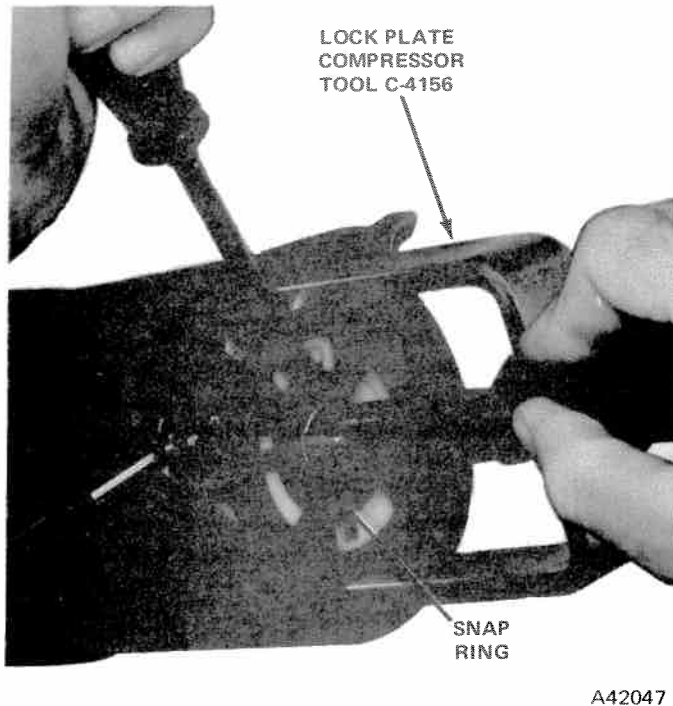

Fig. 11-5 Lock Plate Snap Ring Removal
(6) Use Lock Plate Compressor Tool J-23653 to depress lock plate (fig. 11-5).
- (1) Disconnect battery negative cable.
- (2) Cover painted areas of column.
- (3) Remove instrument panel lower finish panel.
- (4) Remove steering wheel.
- (5) Loosen anti-theft cover retaining screws and lift cover from column. It is not necessary to completely remove these screws as they are held on cover by plastic retainers.
- (6) Use Lock Plate Compressor Tool J-23653 to depress lock plate. Once lock plate is depressed, remove round wire snap ring from steering shaft groove (fig. 11-5).
- (7) Remove Lock Plate Compressor Tool.
- (8) Remove snap ring, lock plate, directional signal canceling cam, upper bearing preload spring, and thrust washer from steering shaft.
- (9) Place directional signal actuating lever in right turn position then remove lever.
- (10) Depress hazard warning light switch, located on right side of column adjacent to key lock, then remove button by turning it in a counterclockwise direction.
- (11) With shift lever in Park, remove shift lever pivot pin with a punch, and remove lever.
- (12) Unhook directional signal wire harness connector from mounting bracket on lower right side of column, below instrument panel.